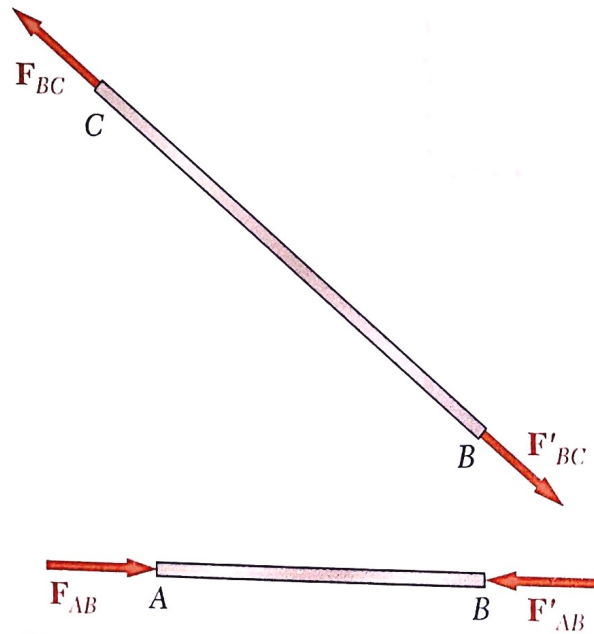

Fig. 1.5
- The forces F'_{AB} and F'_{BC} exerted by pin B , respectively, on boom AB and rod BC are equal and opposite to F_{AB} and F_{BC} (see in *Fig.1.5*).